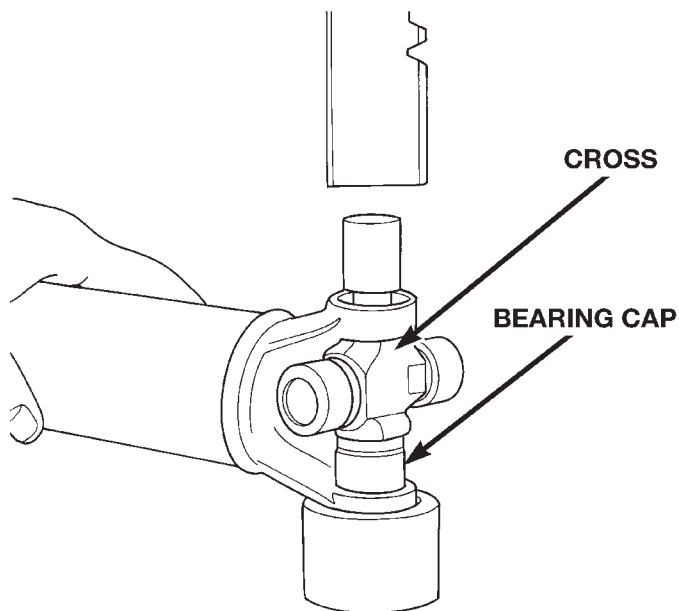

Fig. 17 Press Out Remaining Bearing
(7) If the bearing cap will not pull out of the yoke by hand after pressing, tap the yoke ear near the bearing cap to dislodge the cap.
(8) To remove the opposite bearing cap, turn the yoke over and straighten the cross in the open hole. Then, carefully press the end of the cross until the remaining bearing cap can be removed (Fig. 17).